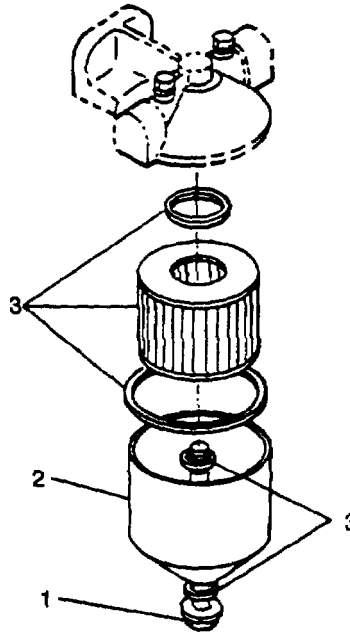

FIGURE 3-12. Fuel Filter
- a. Remove through bolt (1, FIGURE 3-12) and canister (2).
- b. Remove and discard fuel filter (3) and gaskets.
- c. Install new filter (3) and gaskets.
- d. Fill canister (2) with clean fuel.
- e. Install canister (2) with bolt (1).